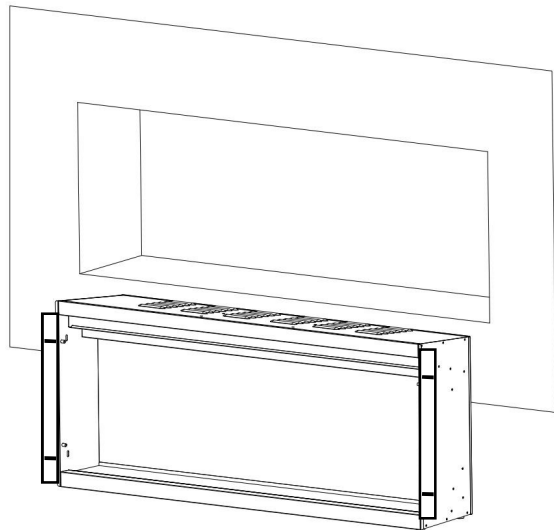
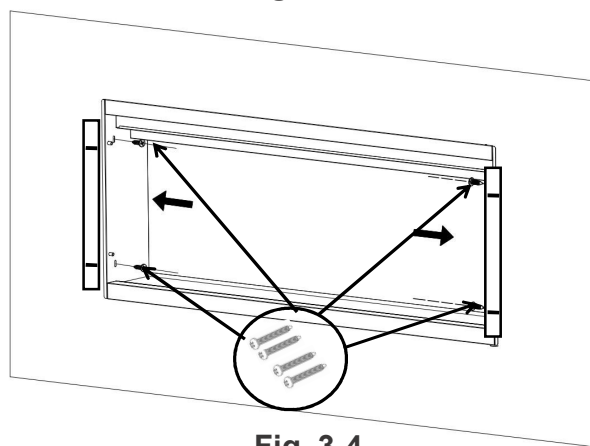

Fig. 3-3
Fig. 3-4
- D. Insert the fireplace into the rough-in frame and then secure it by installing **4 wood screws (A)** through the holes (Fig. 3-3, Fig 3-4).